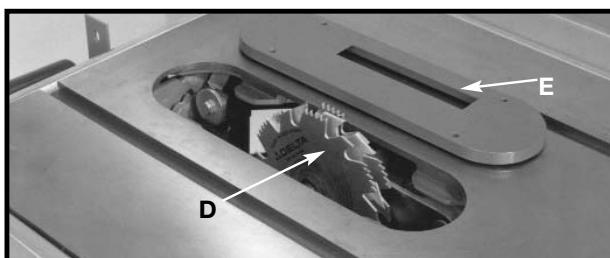

Fig. 51
- Attach the dado head set (D) Fig. 51, to the saw arbor.
**CAUTION** THE ACCESSORY DADO HEAD SET TABLE INSERT (E) FIG. 51, MUST BE USED IN PLACE OF THE STANDARD TABLE INSERT.